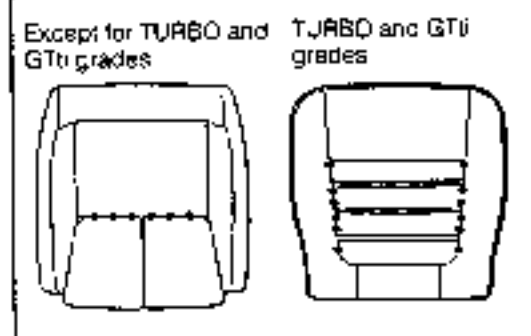

Fig. 9-329 WR-09349
- (1) Install the hug rings at the front side of the front seat cushion. (See Fig. 9-329)
- (2) Install the hug rings at the back side of the front seat cushion